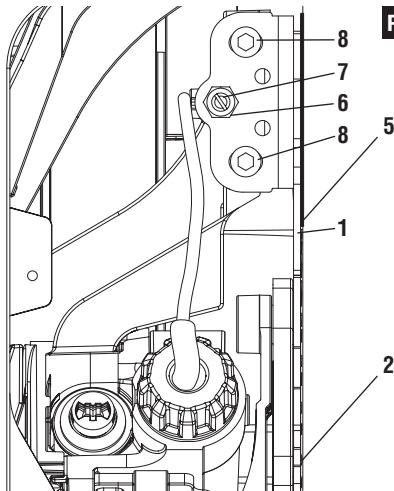

Fig. 34
4. Loosen Hex Nut **6** with 10mm open end wrench (Fig. 34). Slightly loosen Clamping Screws **8** (1/4-1/2 turns) using a 5mm hex wrench provided with table saw (stored in left side of base). Loosen Set Screw **7** using a flat screwdriver (Fig. 34).